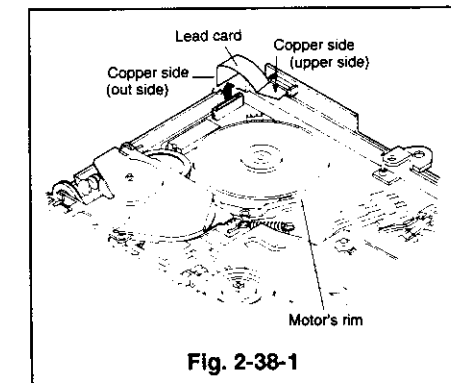
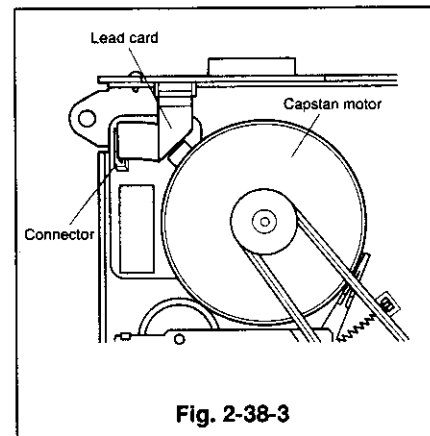

Fig. 2-38-1
Fig. 2-38-3
(Refer to Fig. 2-38-1.)
- ③ Bend the new lead card as shown in Fig.2-38-3 and connect it to the connectors of the PCB of the capstan motor and the PCB-HA/AUDIO so that copper side appears as shown in Fig. 2-38-1. Take care not to touch the rotor of the capstan motor.
- ④ Install the reel belt.